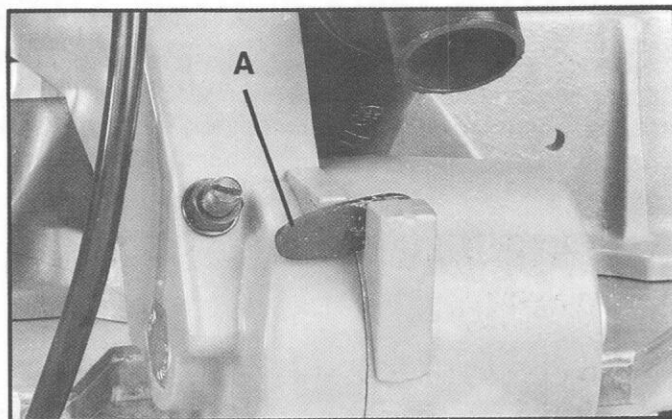

Fig. 17
When transporting the miter box, the cuttinghead should always be locked in the down position. This can be accomplished by lowering the cuttinghead and moving the locking lever (A) to the locked position, as shown in Fig.17. **NEVER CARRY THE MITER BOX BY THE SWITCH HANDLE OR TABLE CONTROL HANDLE AS THIS MAY CAUSE MISALIGNMENT. ALWAYS LIFT THE MACHINE BY THE BASE.**